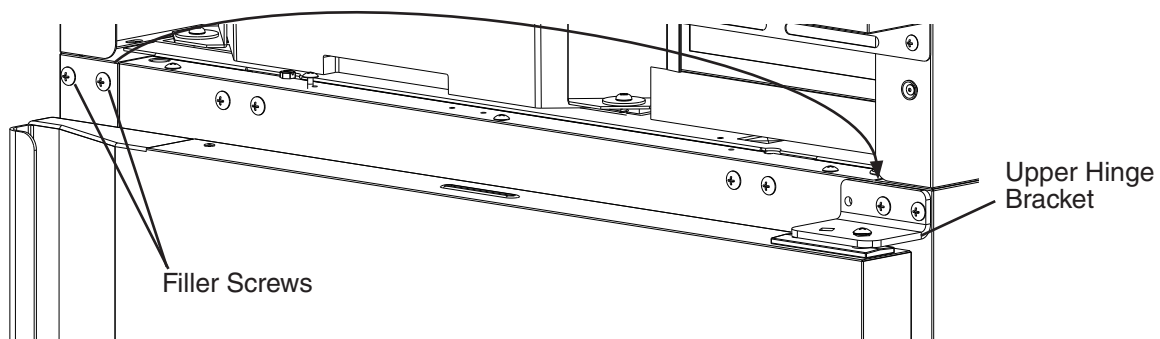

Fig. 10
- 3) While maintaining a hold on the door, remove the upper hinge bracket, then lift the door up off the bottom hinge and set aside. See Fig. 10. Remove the filler screws from the opposite side upper hinge bracket holes and mount them into the holes of the removed upper hinge bracket. **NOTICE! Be sure to reuse the bracket screws for mounting the bracket as the bracket screws are 5×12 and filler screws are 5×10.**